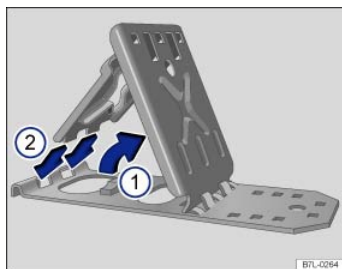

Fig. 202 Unfolding the folding chock.
- Raise the support plate ⇒ Fig. 202①.
- Insert both lock tabs of the securing plate completely in the elongated holes of the base plate ②.